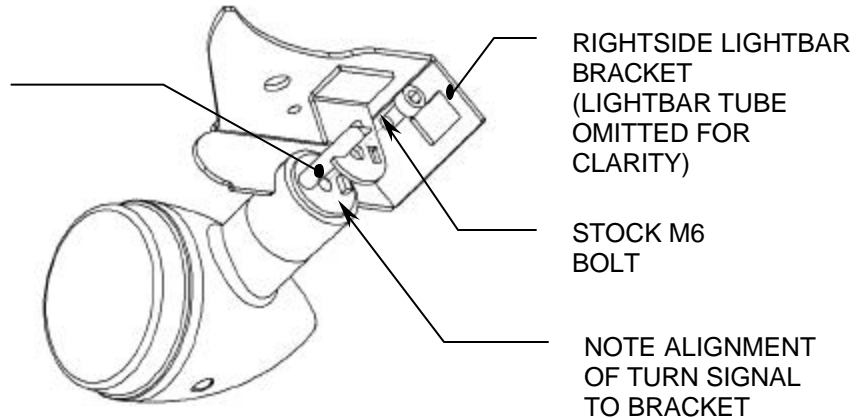

FIGURE 1
1. Remove (2) Phillips head screws from headlight and set aside. Remove headlight from housing, unplug and set aside.
5. Install the turnsignals onto the Cobra lightbar using stock M6 allen bolts, be sure to install the turn signals on the proper side from which they were removed, see Figure 1. Be sure not to pinch the turnsignal wires.
6. On both VTX 1300 and 1800 remove (2) 8mm bolts & nuts from headlight mounting bracket and lower triple clamp and set aside.
7. **For VTX1300** install (2) new 8mm x 50mm flange bolts from the top through the headlight-mounting bracket, and through the lower triple clamp.